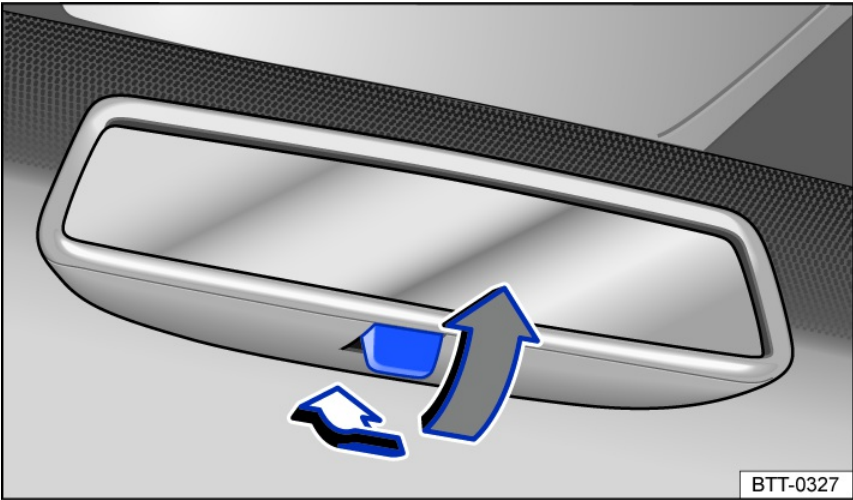

Fig. 103 On the windshield: manual dimming rearview mirror.
- To dim, pull the lever back fig. 103.